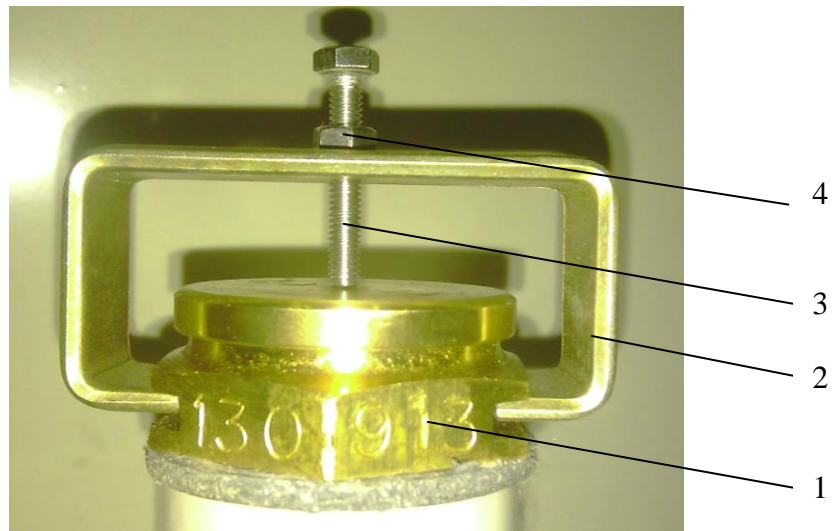

Fig. 8.2 Pressure relief valve with the shipping bracket
- remove shipping bracket from the pressure relief valve (safety valve) having loosened the bolt M4 (see fig.8.2);